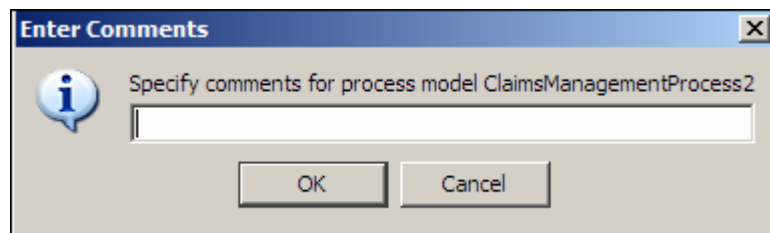

Figure 7.19: Enter Comments (Process Model)
1. Click **File** menu and then select **Save Process Model to Server**, to save the process model on the Adeptia Suite. This displays a screen confirming that the process model has been created successfully. If the comments property is enabled, then clicking **Save Process Model to Server** will display a screen where you need to enter comments related to creating the process model (see Figure 7.19).